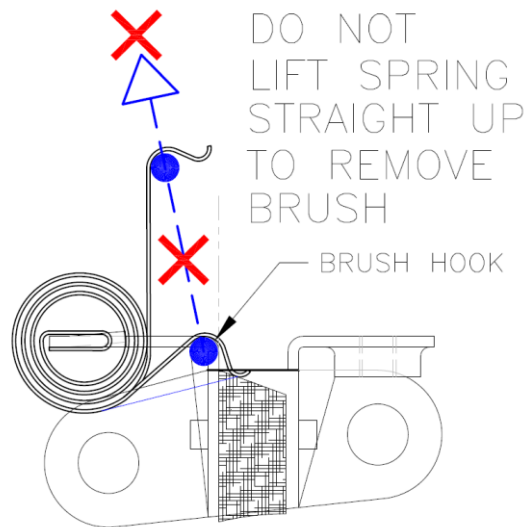

FIG. 7
**BRUSH REMOVAL: DO NOT** lift the spring straight up. (FIG. 7). Over-extending the spring will damage the spring. This damage will cause the spring to lose proper tension and may elongate or stretch the spring. A spring that has lost proper tension or become elongated will cause the brush to arc, create excessive heat, cause the brush to wear at an accelerated pace and damage the armature.